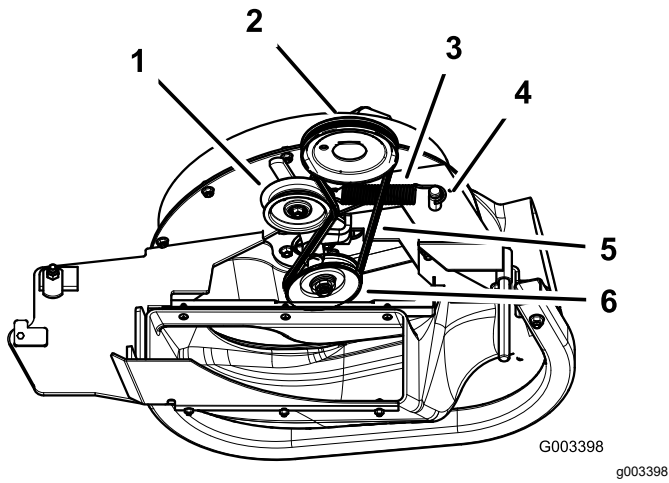

Figure 42
3. Pull back on the spring-loaded idler pulley to relieve the belt tension (Figure 42).
5. Install the new belt around the blower pulleys and the mower-deck pulley (Figure 42).
7. Pull back on the spring-loaded idler pulley and install the belt onto the spring-loaded idler pulley (Figure 42).